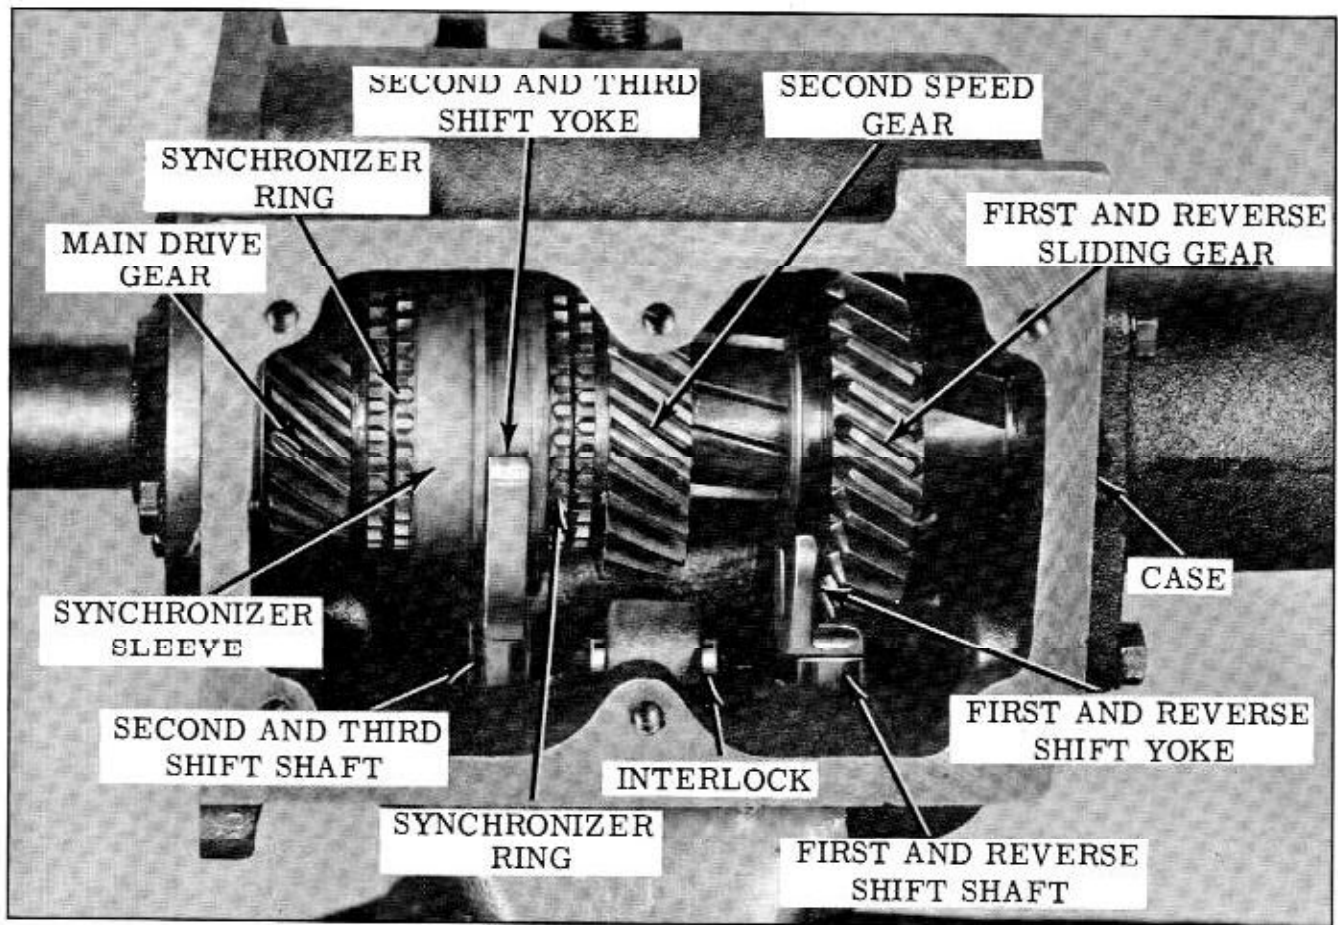

Fig. 10-18 Gear Positions
1. Remove 6 transmission case top cover bolts and remove top cover and gasket. Visually inspect condition of transmission parts. (Fig. 10-18)
21. Position mainshaft and bearing in case being certain both yokes are engaged. (Fig. 10-18)